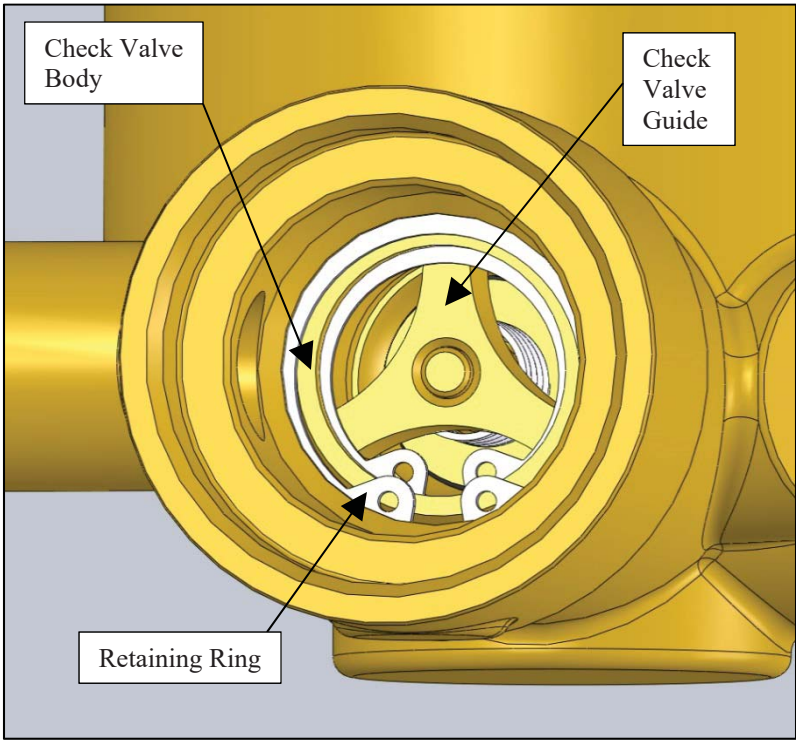

Figure 30: Check Valve Installation Close-up.
4. Using Retaining Ring pliers, remove Retaining Ring holding in Check Valve. See Figure 30.
5. Using Needle Nose pliers grasp the Guide of Check Valve and pull Check Valve out of the manifold Body. See Figure 30.
7. Using Needle Nose pliers, push on Check Valve Body. You will feel the O-ring on Check Valve engage the Body. See Figure 30.
9. Re-assemble Line Regulator, Ball Valves and Bank Regulator. Use care to engage the pin on small end of ball valve into slot on line regulator body. Firmly press together Bank and Line sections together and tighten the (2) Socket Head Cap Screws hand tight.